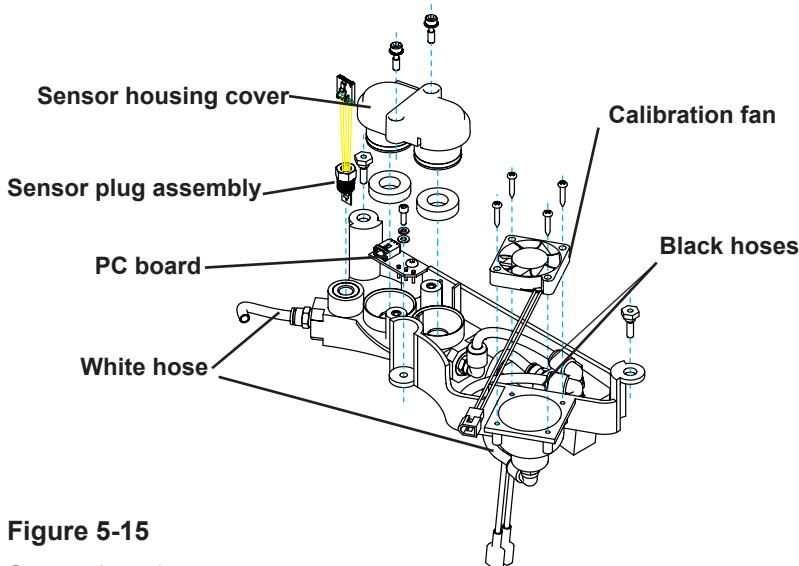

Figure 5-15
5.8.3 Sensor housing repairs (Figure 5-15)
5. Use a 2.5mm hex key to remove the M3 screw that secures the center of the sensor housing to the chassis. See figure 5-15.